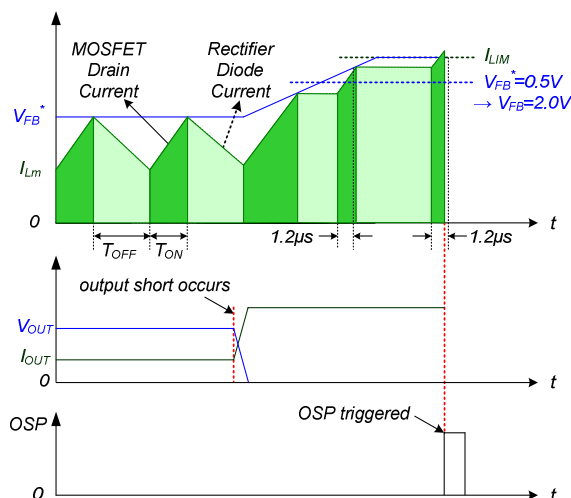

Figure 22. Output-Short Protection
**4.3. Output-Short Protection (OSP):** If the output is shorted, steep current with extremely high di/dt can flow through the SenseFET during the minimum turn-on time. Such a steep current brings high-voltage stress on the drain of the SenseFET when turned off. To protect the device from this abnormal condition, OSP is included. It is comprised of detecting  $V_{FB}$  and SenseFET turn-on time. When the  $V_{FB}$  is higher than 2V and the SenseFET turn-on time is lower than  $1.2\mu s$ , the FSGM0765R recognizes this condition as an abnormal error and shuts down PWM switching until  $V_{CC}$  reaches  $V_{START}$  again. An abnormal condition output short is shown in Figure 22.